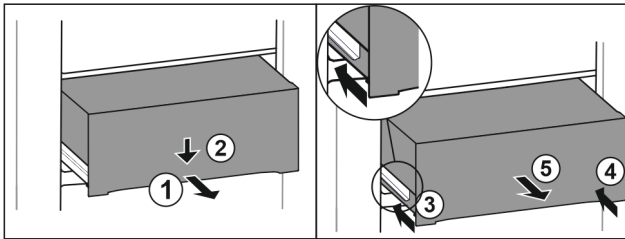

Fig. 118
- ▶ Pull out drawer half-way. Fig. 118 (1)
- ▶ Push the drawer down at the front. Fig. 118 (2)
- ▶ Push the left rail in by about 2 cm. Fig. 118 (3)
- ▶ Push the right rail in by about 2 cm. Fig. 118 (4)
- ▶ Remove drawer to the front. Fig. 118 (5)